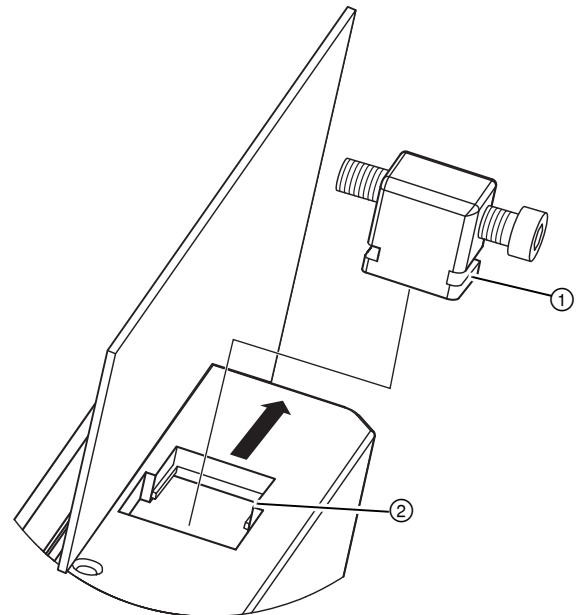

Figure 4 Panel mount clamps
3. From the rear, place the display clamps, 1, in the slots, 2, on the display and slide the clamp to the right (see Figure 4). Clamps must be used in every slot.